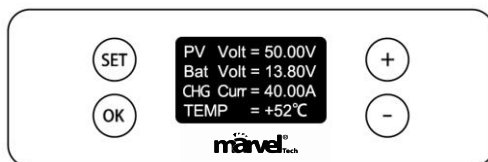
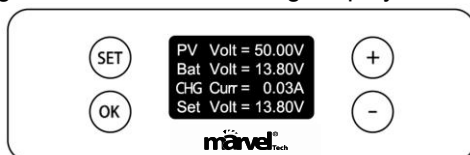

Figure 5-1: Normal Working Display Interface
Figure 5-2: Voltage Setting Display Interface
1. In normal working mode, press the [SET] button to enter the [Voltage Setting Display Interface] (shown in Figure 5-2) from the [Normal Working Display Interface] (shown in Figure 5-1).